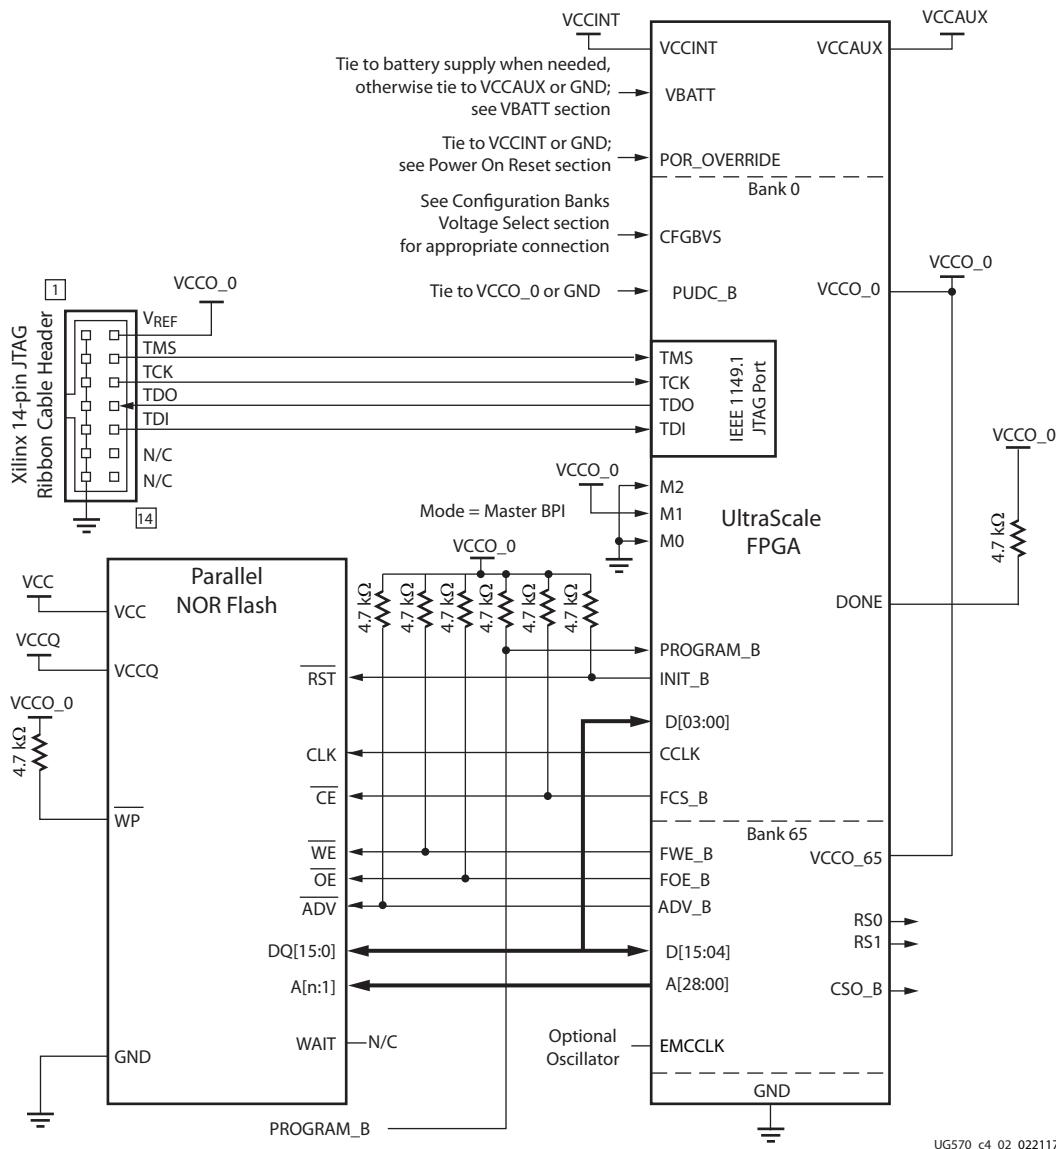
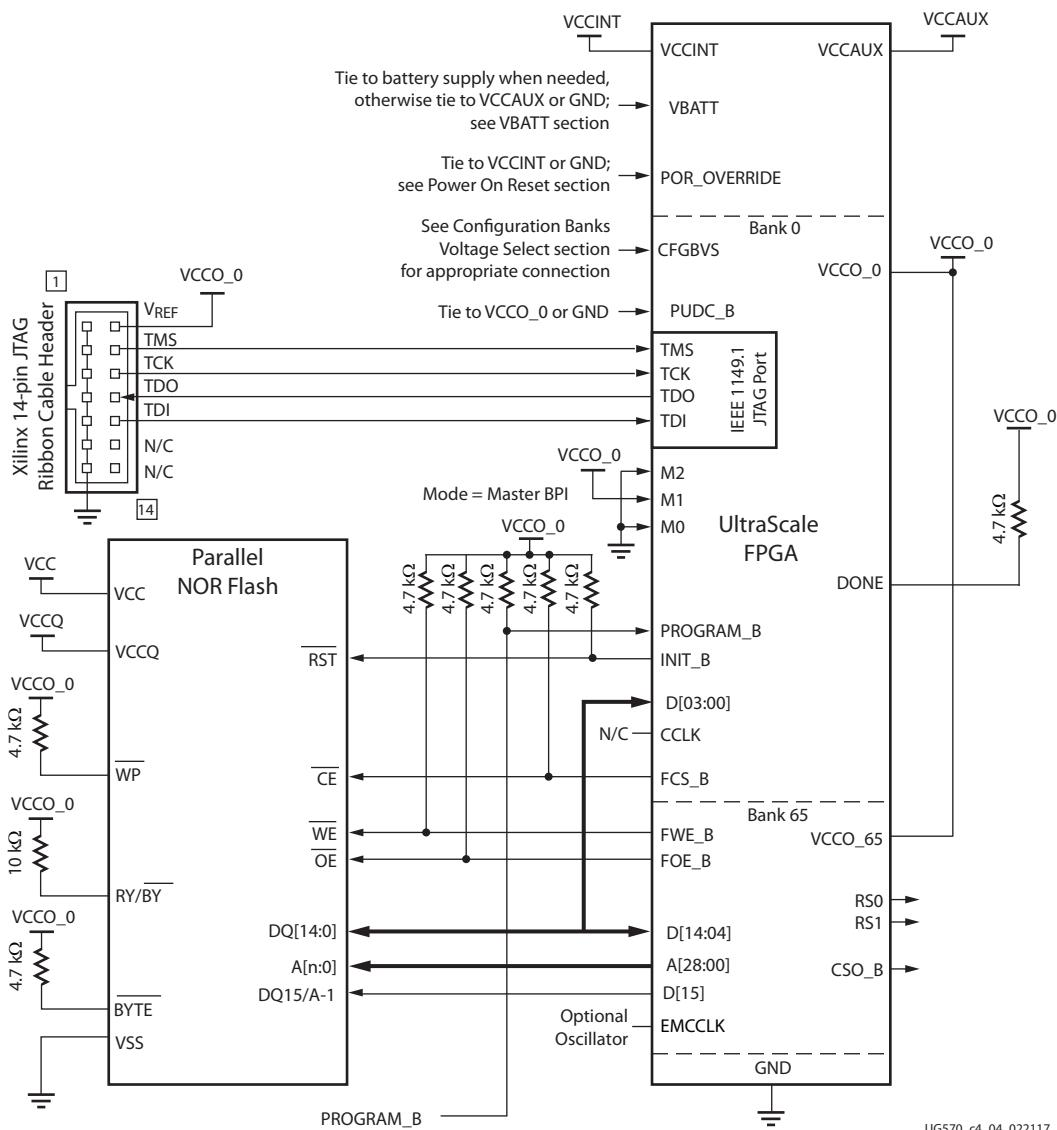

Figure 4-2: Master BPI Configuration Interface Example for x16 Synchronous Read
Figure 4-4: Master BPI Configuration Interface Example for x16 Asynchronous Read
The master BPI configuration interface is represented in Figure 4-1. Detailed connections between the FPGA and the parallel NOR flash for master BPI configuration mode are shown in Figure 4-2 and Figure 4-4. The FPGA signals are defined in Table 1-9, page 31.
Figure 4-2 provides the connectivity diagram between the FPGA and parallel NOR flash for the master BPI configuration mode to support the synchronous read and the EMCCLK (external master configuration clock). Refer to the External Master Configuration Clock \(EMCCLK\) Option in Chapter 1 for configuration clock option details. Figure 4-2 supports both synchronous and asynchronous read modes. If only asynchronous mode is required for the application, refer to Figure 4-4 for connections that are optional.
Notes relevant to Figure 4-2:
11. The RS[1:0] pins are not connected, as shown in Figure 4-2. This sample schematic supports single bitstream configuration. These output pins are optional and can be used for MultiBoot configuration.
By default, UltraScale FPGAs use the parallel NOR flash asynchronous read in the master BPI configuration mode. The FPGA drives the address bus from a given start address, and the flash sends back the bitstream data. The default start address is address 0, but the start address can be explicitly set in a MultiBoot reconfiguration procedure. In asynchronous read mode, supported bus widths of x8 and x16 are auto-detected. Figure 4-4 provides the connectivity diagram between the FPGA and parallel NOR flash for the x16 asynchronous read master BPI configuration mode.
Notes relevant to Figure 4-4:
5. The x16 BPI interface is shown in Figure 4-4. For x8 BPI interfaces, only D[07:00] are used.
13. The RS[1:0] pins are not connected, as shown in Figure 4-4. This sample schematic supports single bitstream configuration. These output pins are optional and can be used for MultiBoot configuration.